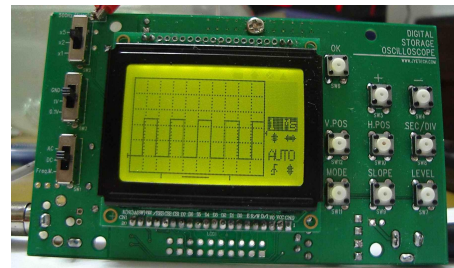

Fig. 4
- 5) Press [ V.POS ] button, adjust 0V indicator to the second to last vertical scale as shown in Fig. 4.
- 7) Set Y sensitivity switch 2 (top switch) to X2 position. Waveform similar to that shown in Fig. 4 should be seen.